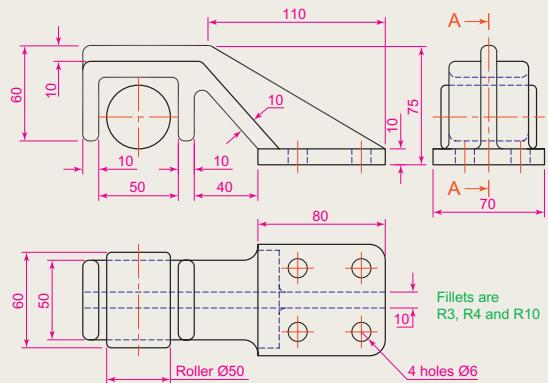

Fig. 8.21 Exercise 2
- Construct the three-view orthographic projection Fig. 8.21 to the given dimensions with the front view as the sectional view A-A.
2. Construct the three-view orthographic projection Fig. 8.21 to the given dimensions with the front view as the sectional view A-A.